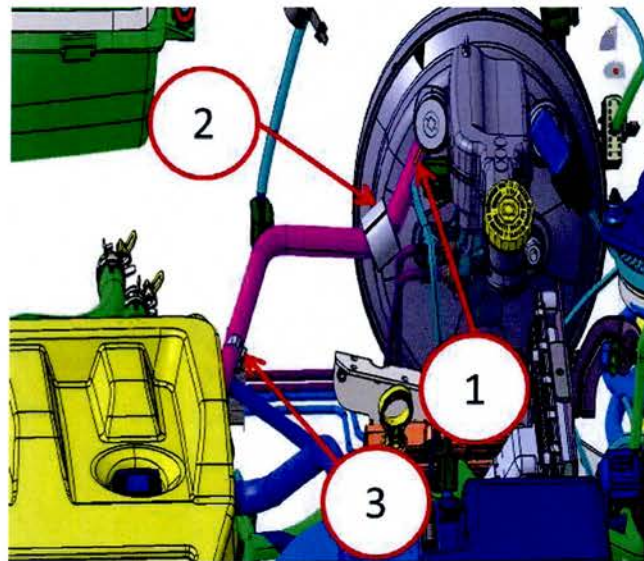

Fig. 3 Vacuum Hose Routing
3. Route new vacuum hose part number 04743837AE as shown in (Fig. 3).